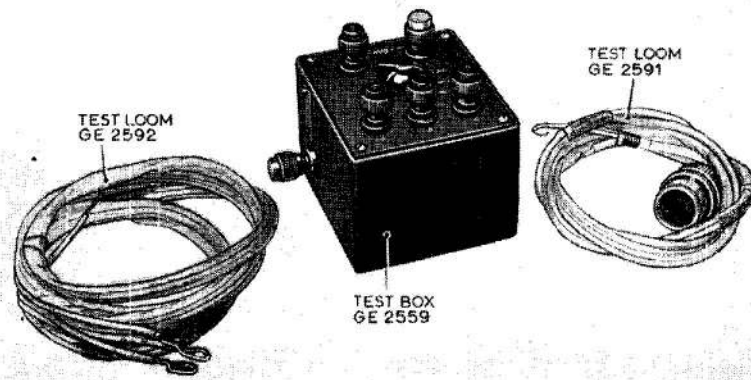

Fig. 1. Tailplane heater mat test set
2. This test set GE2559 (*fig. 1*) is a rectangular wooden box, which has a four position, two wafer, rotary switch and six terminals mounted on it. Three terminals, marked A, B and C on the box, are for connecting to the three phases of the heater mat. The terminals marked AVO are for connection to a multimeter Type 1 (Ref. No. 10S/16411), whilst that marked MEGGER is